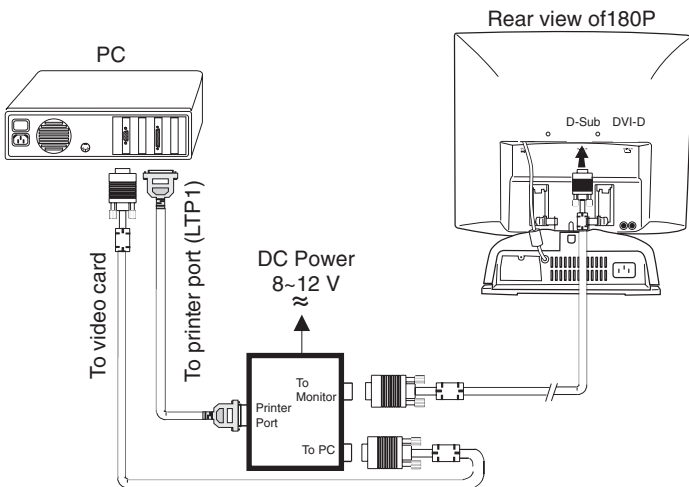

Fig. 3
- Step 1: After initialize alignment box, connecting all cables and box as Fig. 3